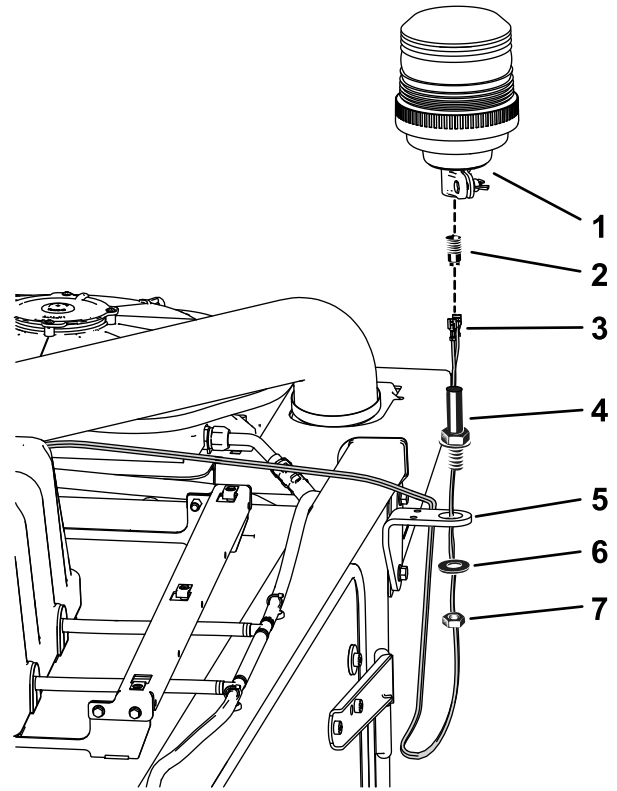

Figure 6
- Install the beacon bracket to the cab (Figure 6).
Note: The beacon connector can be threaded out of the beacon socket for connection (Figure 6).
- Assemble the beacon to the bracket as shown in Figure 6.